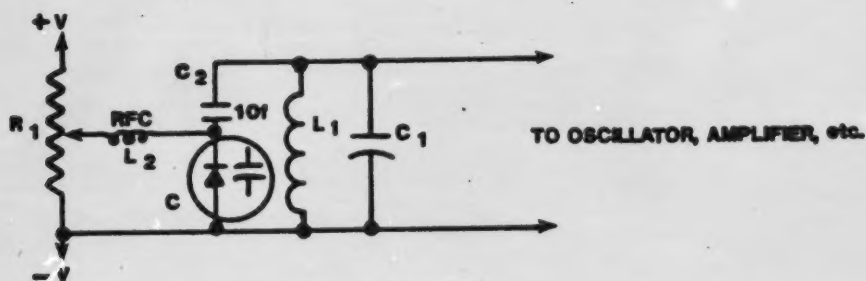

Figure 23
- (25) Let's place a varactor diode into a circuit to see how it functions. A common application for the varactor is to function as a variable tuning capacitor in the tank circuits of receivers and transmitters. An example is shown in Figure 23.